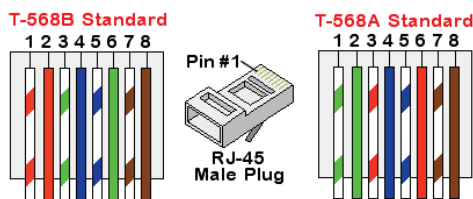

Figure 36: Standard cable wiring
- c. Insert the eight wires into an RJ45 connector, as described in *Figure 36*
7. For the switch/router side, use a pre-crimped cable or use a crimper to prepare an RJ45 communication connector: Insert the eight wires into the RJ45 connector in the same order as above (*Figure 36*).